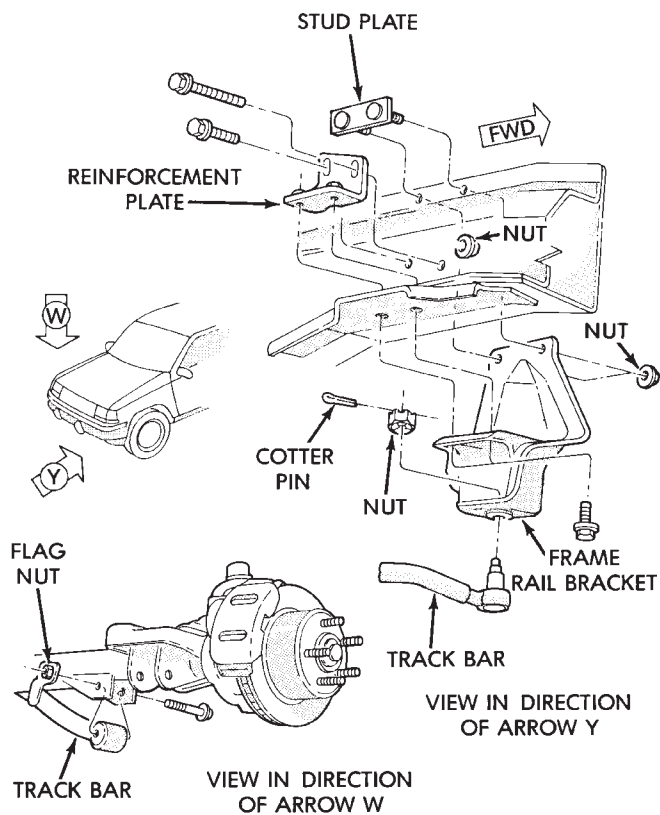

Fig. 8 Track Bar
(1) Raise and support the vehicle.
(2) Remove the cotter pin and nut from the ball stud end at the frame rail bracket (Fig. 8).
(3) Remove the bolt and flag nut from the axle shaft tube bracket (Fig. 8). Remove the track bar.